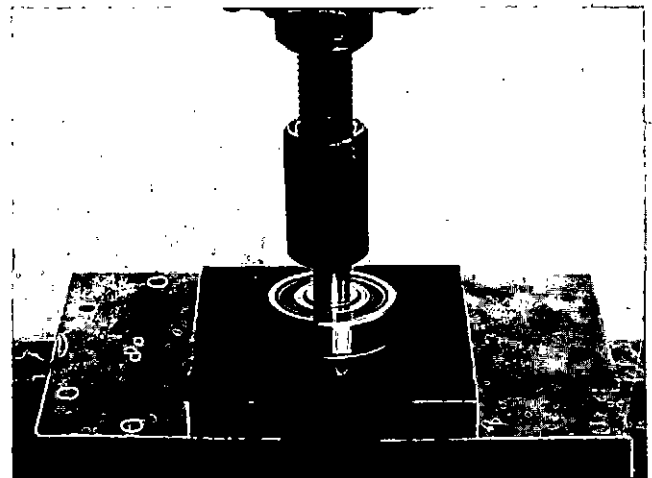

Fig. 8-38 (N10879). Remove The Shaft From The Bearing.
7. Use the Part No. ST-1114 Bearing Disassembly Fixture to support the outer bearing (6, Fig. 8-34) and spacer (7). Push the shaft from the bearing and spacer, Fig. 8-38.